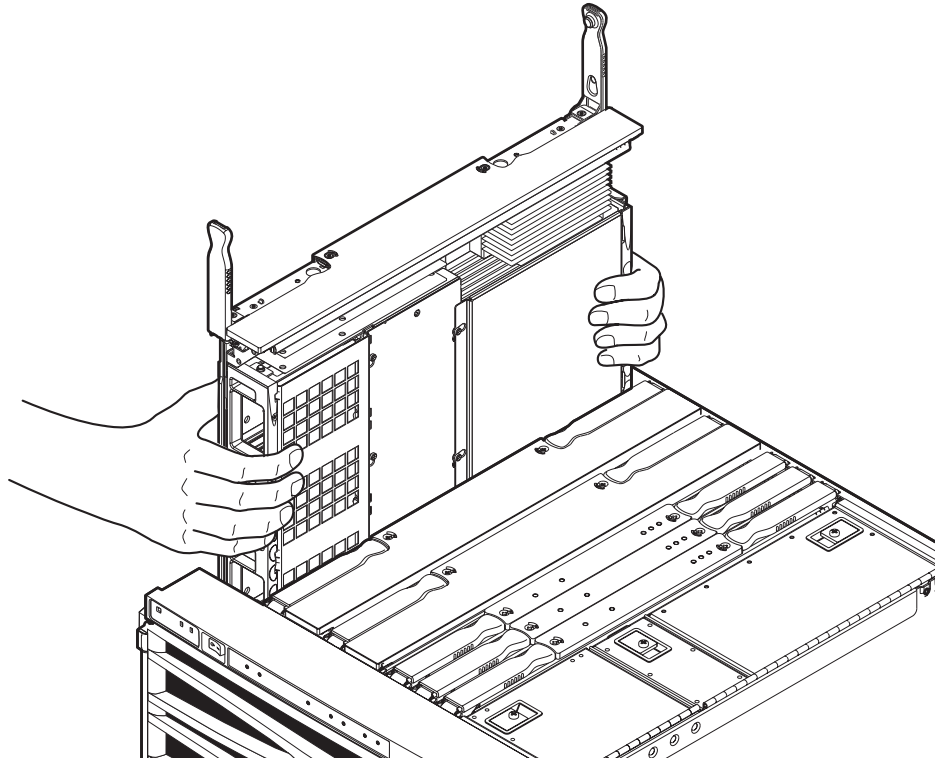

FIGURE 9-5 Raising a CPU/Memory Board From the System
11. Grasp the green panels and raise the CPU/Memory board out of the system (FIGURE 9-5).
5. Grasp the green side panels and gently insert the CPU/Memory board into the grooves until the antigravity clutch is engaged (FIGURE 9-5).